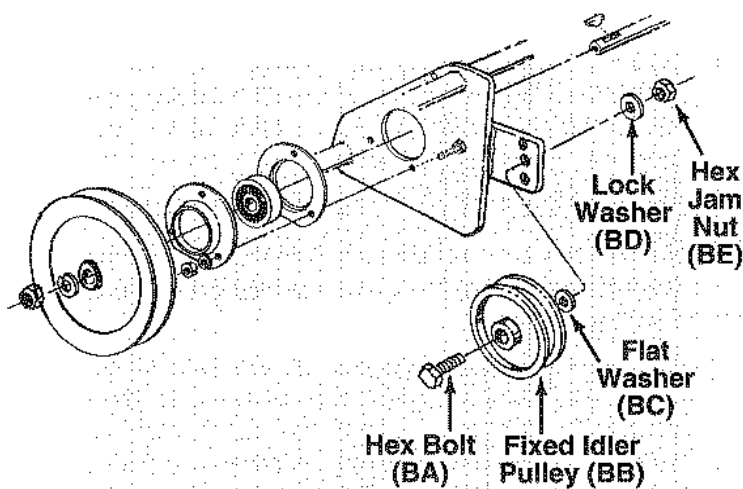

FIGURE 19.
11. Attach the fixed idler pulley (BB) to the **middle** hole in the idler bracket on the snow thrower housing as shown in figure 19, using hex bolt (BA), flat washer (BC), lock washer (BD), and hex jam nut (BE).